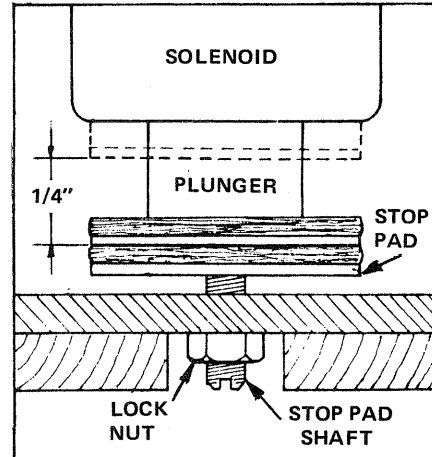

FIGURE 9-28 Stroke adjustment parts.
- F. To adjust the stroke of the Solenoid, loosen the Lock Nut on the Stop Pad Shaft (see FIGURE 9-28) with a 7/16" Nutdriver, then insert a common screwdriver in the slot in the end of the Stop Pad Shaft and turn the Shaft CLOCKWISE to SHORTEN or COUNTERCLOCKWISE to LENGTHEN the stroke of the Solenoid until its stroke is 1/4", then tighten the Lock Nut and proceed to Point G below. See the CAUTION below.